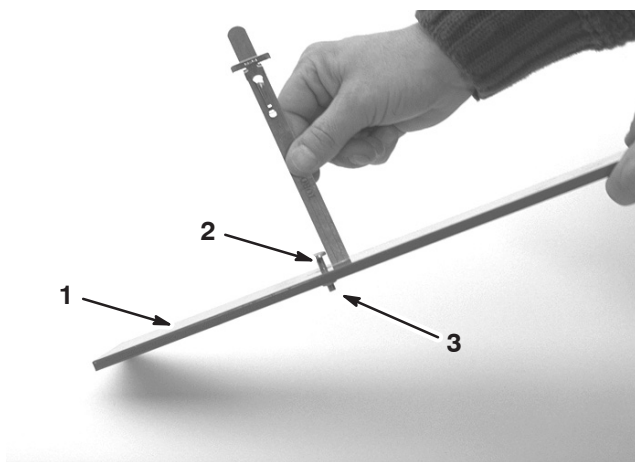

Figure 14
3. Loosen the nut on the gauge bar (Fig. 14) and set the adjusting screw to the desired height-of-cut. The distance between the bottom of the screw head and the face of the bar is the height-of-cut.